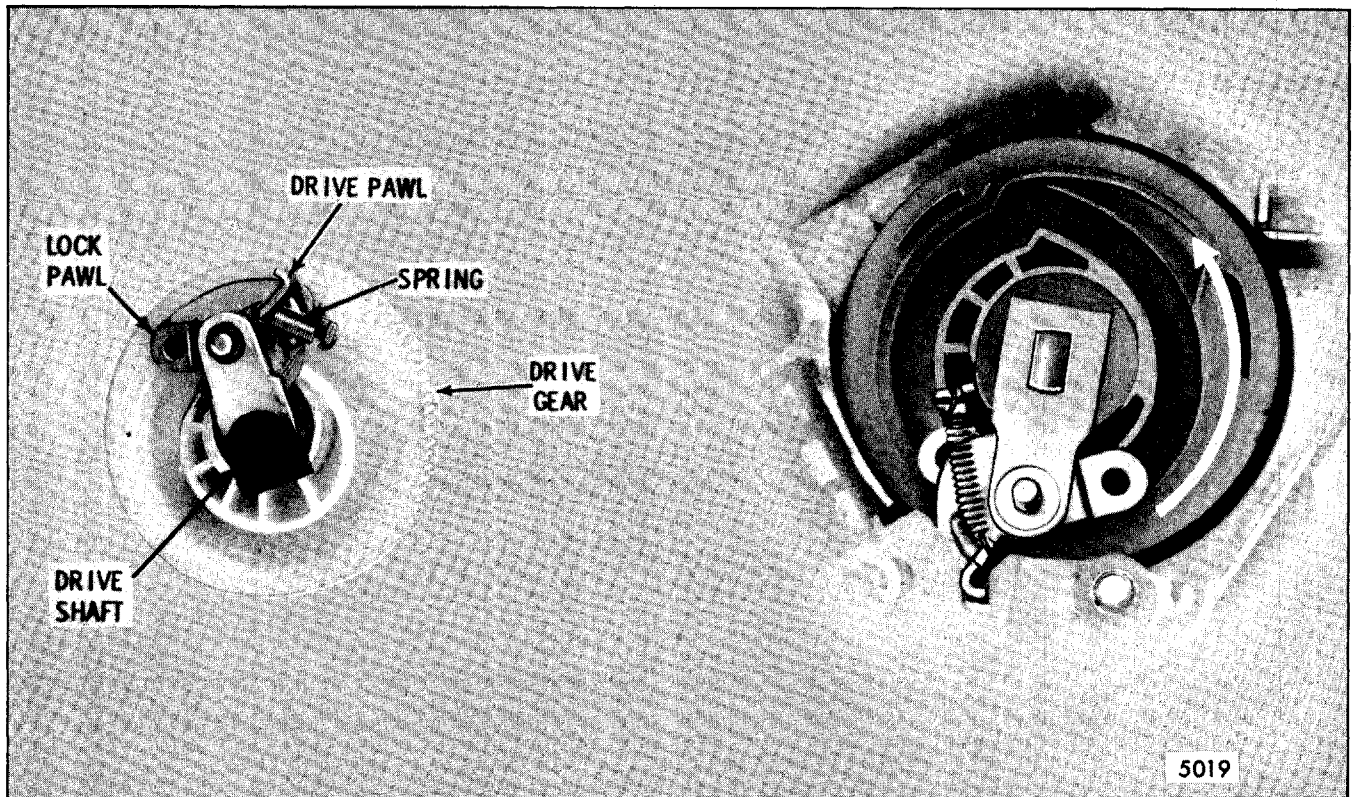

Fig. 2-71-Lock Pawl and Drive Pin Positioning
4. Holding the gear, manually rotate the drive plate in the direction of the arrow until the drive and lock pawl guide pins fit into their respective pockets in the gear (Fig. 2-71).